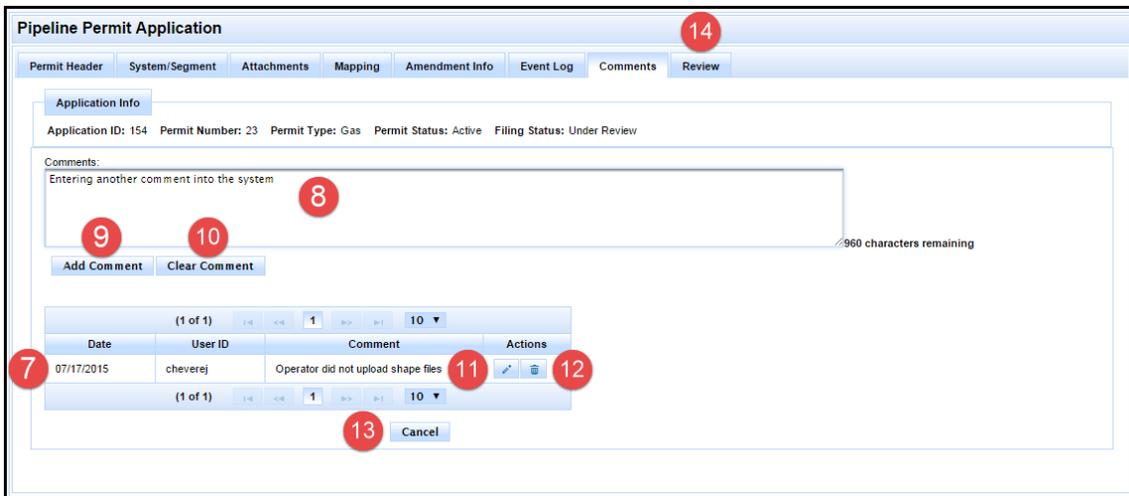

Figure 76: Permitting Reviewer Comments Tab
- Review the information, if any, on the Amendment tab. When you are finished, click the Comments tab. An example Comments tab is shown in Figure 76.